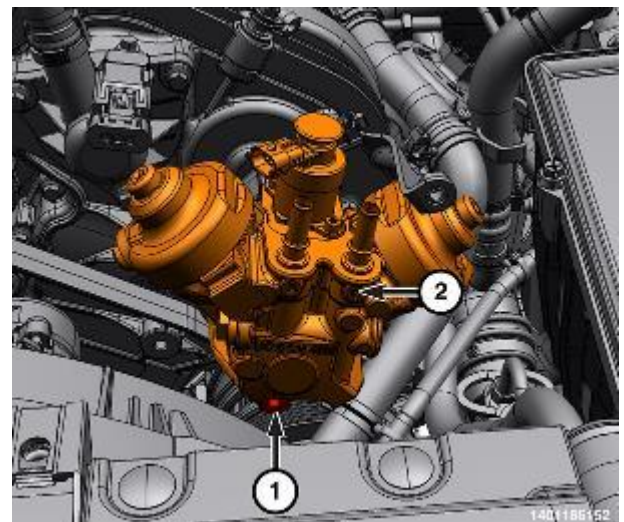

Figure 133 – HPFP Lower Bolt
- 71. Remove the lower bolt (1) from the HPFP (2) and slide the pump away from the engine as far as possible (Figure 133).
- 80. Install the pump to the engine using the pins as a guide. Install the lower fuel injection pump bolt (1) and hand tighten the bolt (Figure 133).